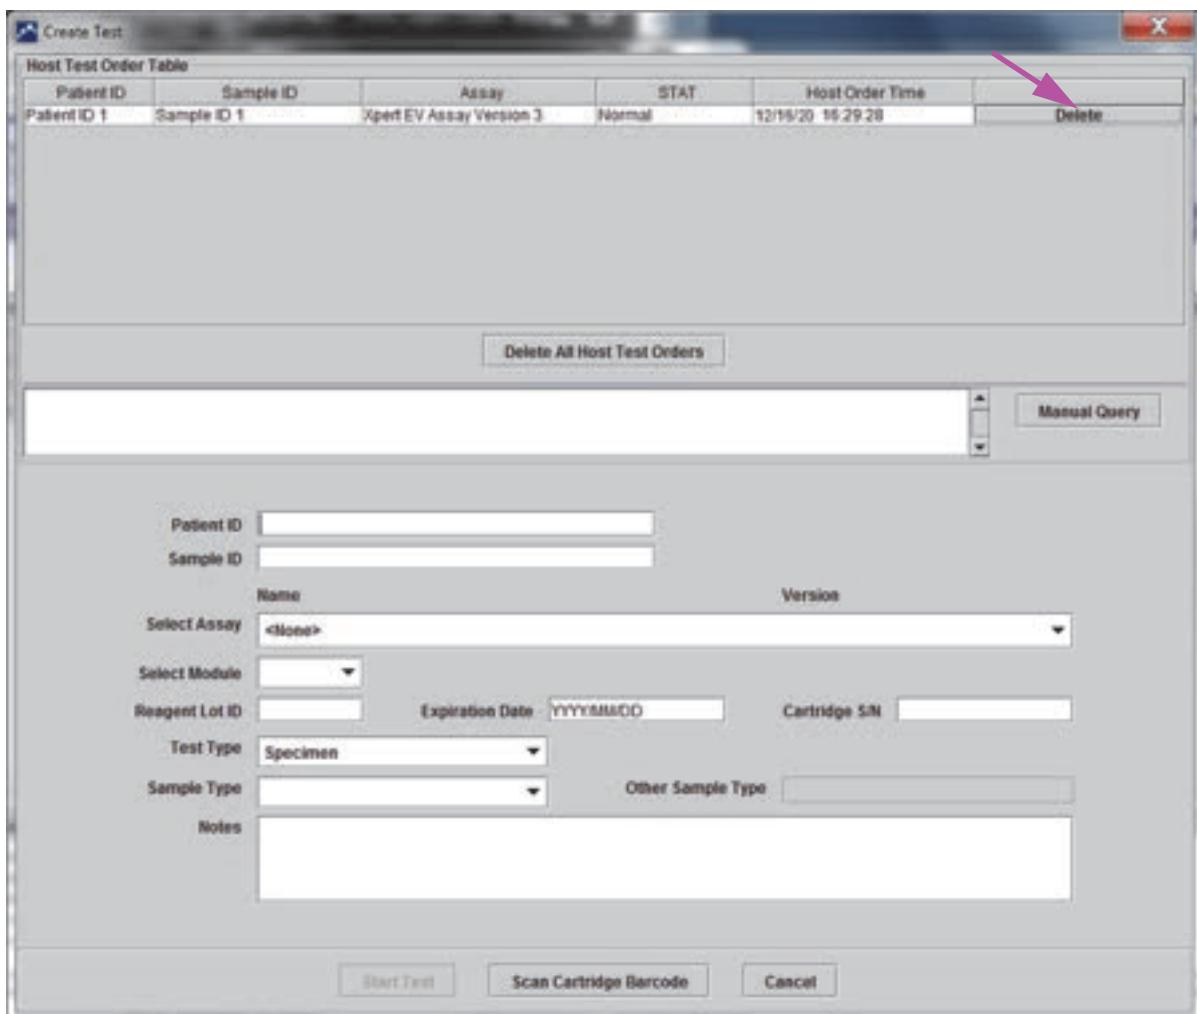

Figure 5-97. Deleting a Host Download Test Order
2. Click the **Delete** button on the same row. See Figure 5-97.